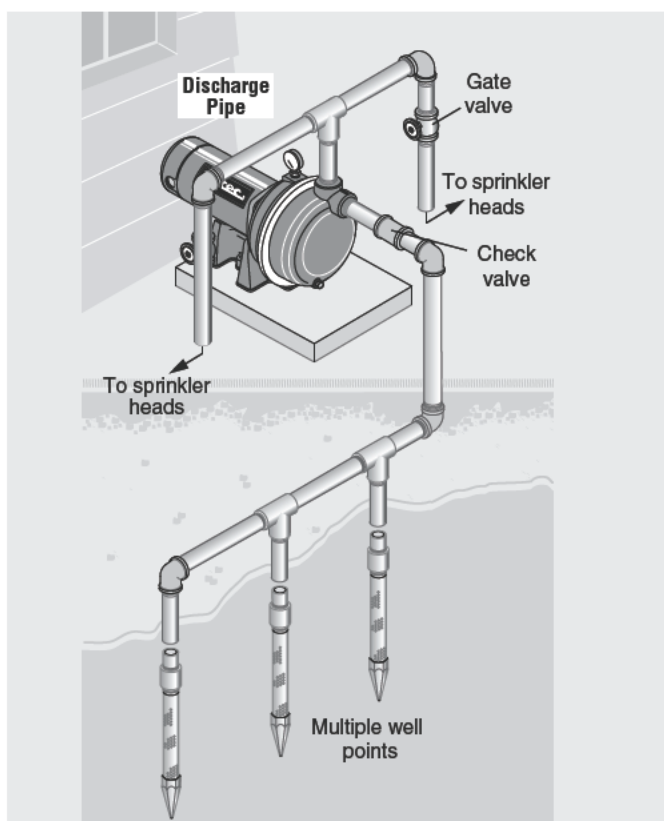

Figure 2 - Driven Point Installation, Multiple Well Points
- Step 1. Connect suction pipe to drive point (Fig. 2). Keep horizontal pipe run as short as possible. Use Teflon tape on male pipe threads. Multiple well points may be necessary to provide sufficient water to pump.